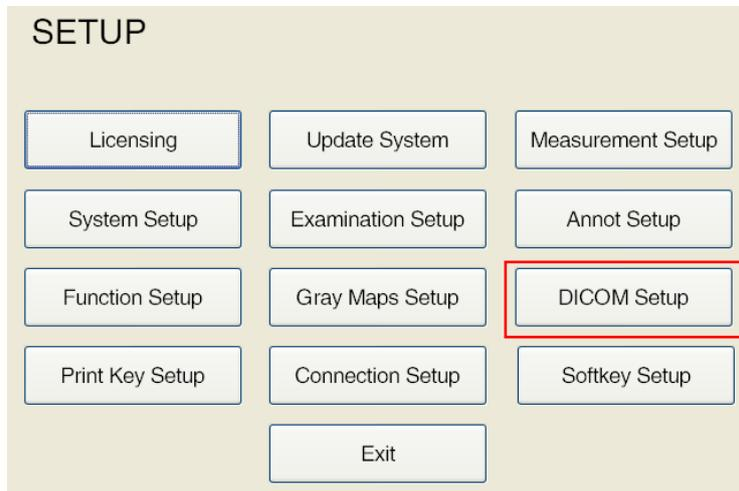

Fig. H-6 Main SETUP screen
- 1) Tap **Setup** on the touchscreen of the ultrasound system to open the main setup screen, as seen in Fig. H-6.